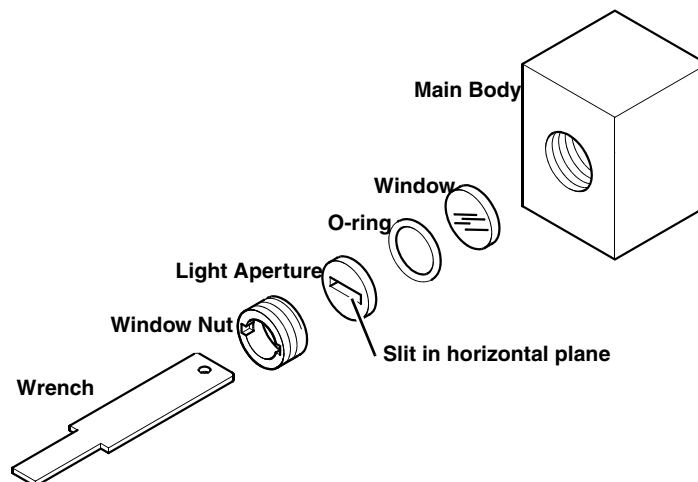

Figure 2-6 Flow cell aperture installation
1. On one side of the flow cell, remove the window nut using the wrench included with the flow cell (Figure 2-6).
7. Verify that both light aperture slits are in the horizontal plane as shown in Figure 2-6. If not, loosen the window nuts, align the openings, and tighten the window nuts.